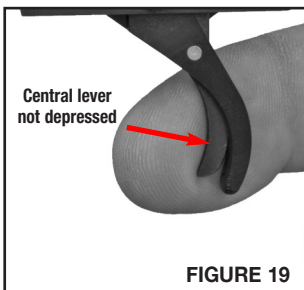

FIGURE 19
- Located in the center of the trigger, this lever must be depressed by the user's finger during the act of firing to allow the trigger move back to fire the rifle (FIGURES 19 and 20).